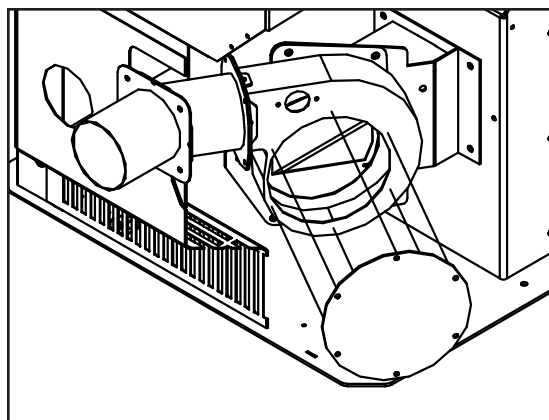

Figure 19: Exterior Blower Kit.
1. Remove the left hand cabinet side by removing the two (2) screws down the front. Loosen the three screws on the back of the cabinet side and remove panel.
2. Loosen the six (6) screws that hold the back grill in place. Lift the back grill off the screws.
3. Disconnect the Exhaust blower wires from the wire harness. Remove the exhaust blower motor from the housing; six (6) screws. Cover hole in housing with cover plate provided (see Figure 19).
5. Install the exhaust blower housing box into the pipe placed through the wall thimble, seal with high temperature silicone. Fasten the box to the wall with (4) four screws, seal edges of box to wall with clear silicone.